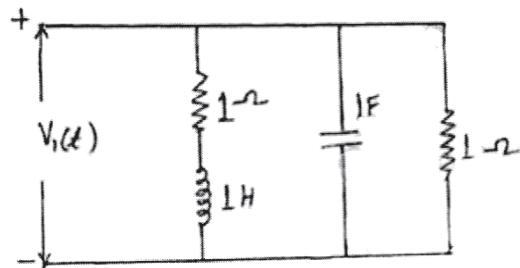

Fig. 11
b) Determine Driving Point Admittance function $Y_{11}(s)$ for the network in Fig. 11 and hence draw pole zero plot of $Y_{11}(s)$. [6]